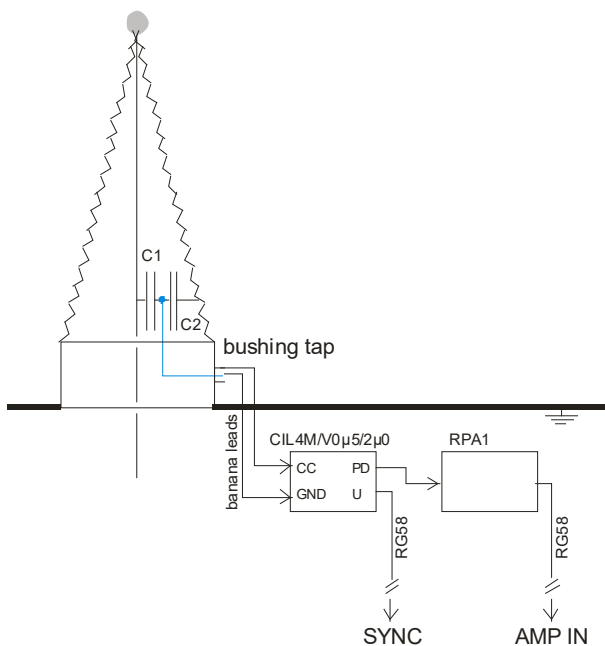

Fig. V.29: Connection of CIL4M/V0 μ 5/2 μ 0 and RPA1
The quadrupole CIL4M/V0 μ 5/2 μ 0 should be connected to the tap of the transformer bushing (figure V.29). It is recommended to keep the connection cable to the pre-amplifier RPA1 as short as possible, as the capacitance of this cable adds to C2, which reduces the sensitivity. The quadrupole is designed for a bushing capacitance C1 in range of 200 pF to 2 nF, while the current is limited to 400 mA. The internal capacitance of the voltage divider is 2 μ F. This quadrupole provides two output signals. The first one (PD) carries the partial discharge signal, which is subsequently amplified by the pre-amplifier. The second output (U) provides the ICMsystem with the synchronisation voltage signal. This voltage output can rise up to 140 V_{rms} or 200 V_{peak}. Both signals are transmitted to the acquisition unit using up to 50 m RG58 coaxial cables.